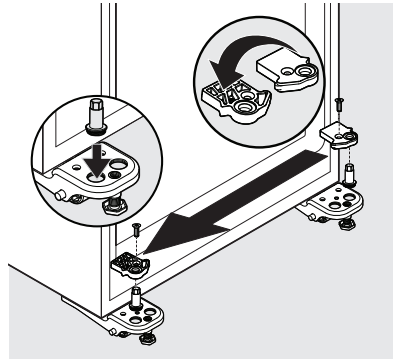

Figure 5
12. Install the bottom hinge pin in the left hand hole of the left hand lower hinge (see Figure 5).
13. Install the door stopper and screw it on top of the hinge pin (see Figure 5).